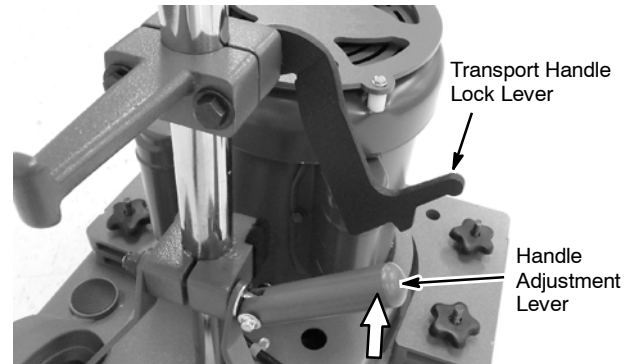

FIG. 4
1. With the transport handle lock lever in the unlocked position loosen the handle adjustment lever by lifting it upward (Figure 4).